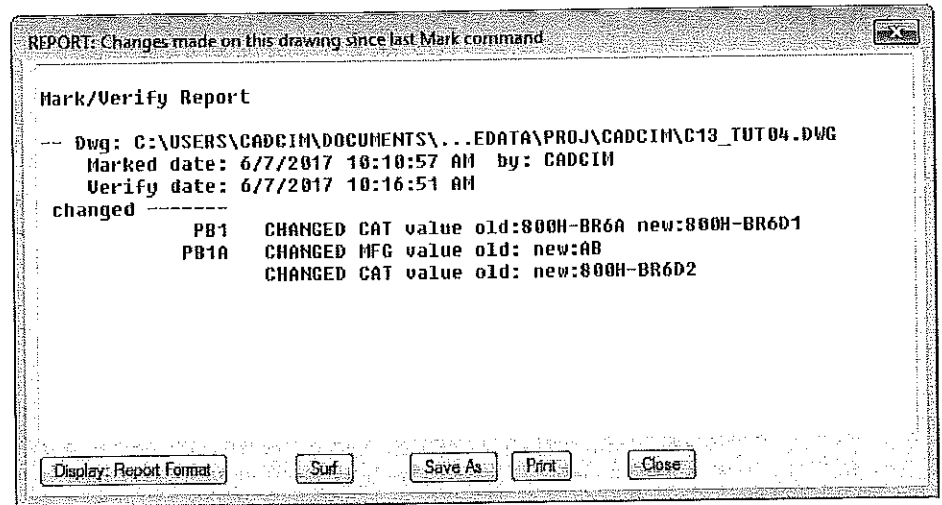

Figure 13-54 The REPORT: Changes made on this drawing since last Mark command dialog box
2. Make sure that the **Verify: check for changes since marked** radio button is selected in the **What to do** area. Next, choose the **OK** button; the **REPORT: Changes made on this drawing since last Mark command** dialog box is displayed, as shown in Figure 13-54.